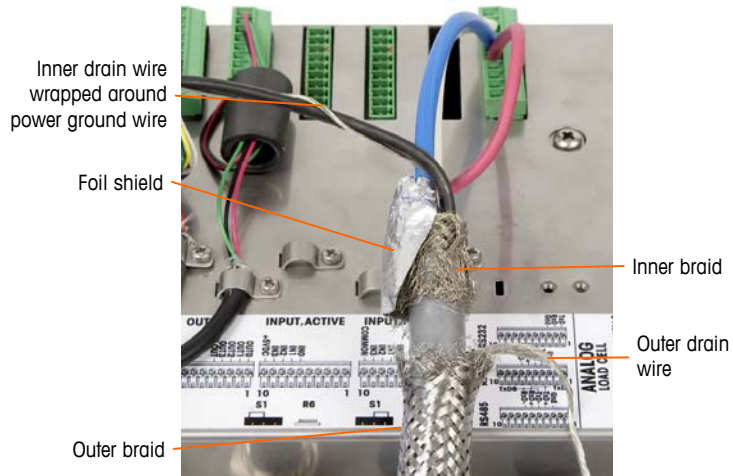

Figure A-50: PDX Home Run Cable, Panel Mount Enclosure
- a. Slide back the outer braid and fold the trimmed inner braid and foil shield back evenly over the edge of the cable insulation sheath, as shown in Figure A-50.